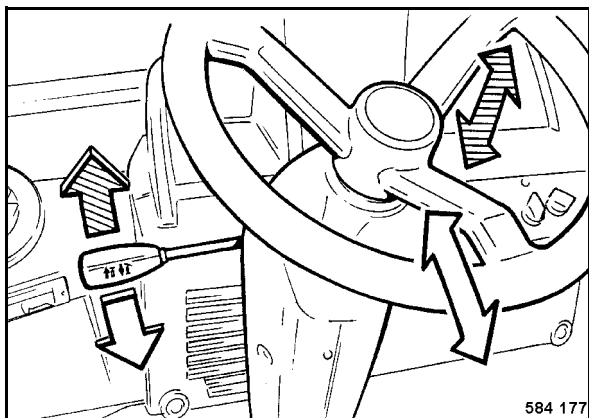

Fig. 69
- Adjustment of steering wheel in height, pull lever (Fig. 69) up and move the steering wheel to the desired height.